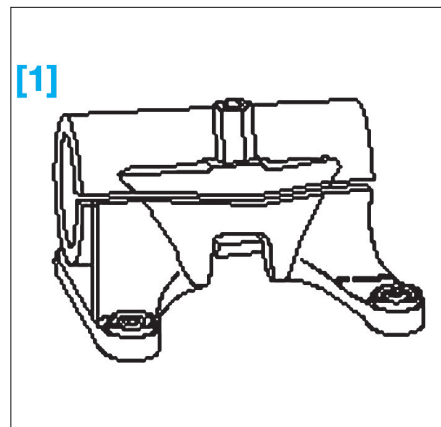

FIG. 14
- [1]. Support de serrage Ref. VW 313 (Fig.14).